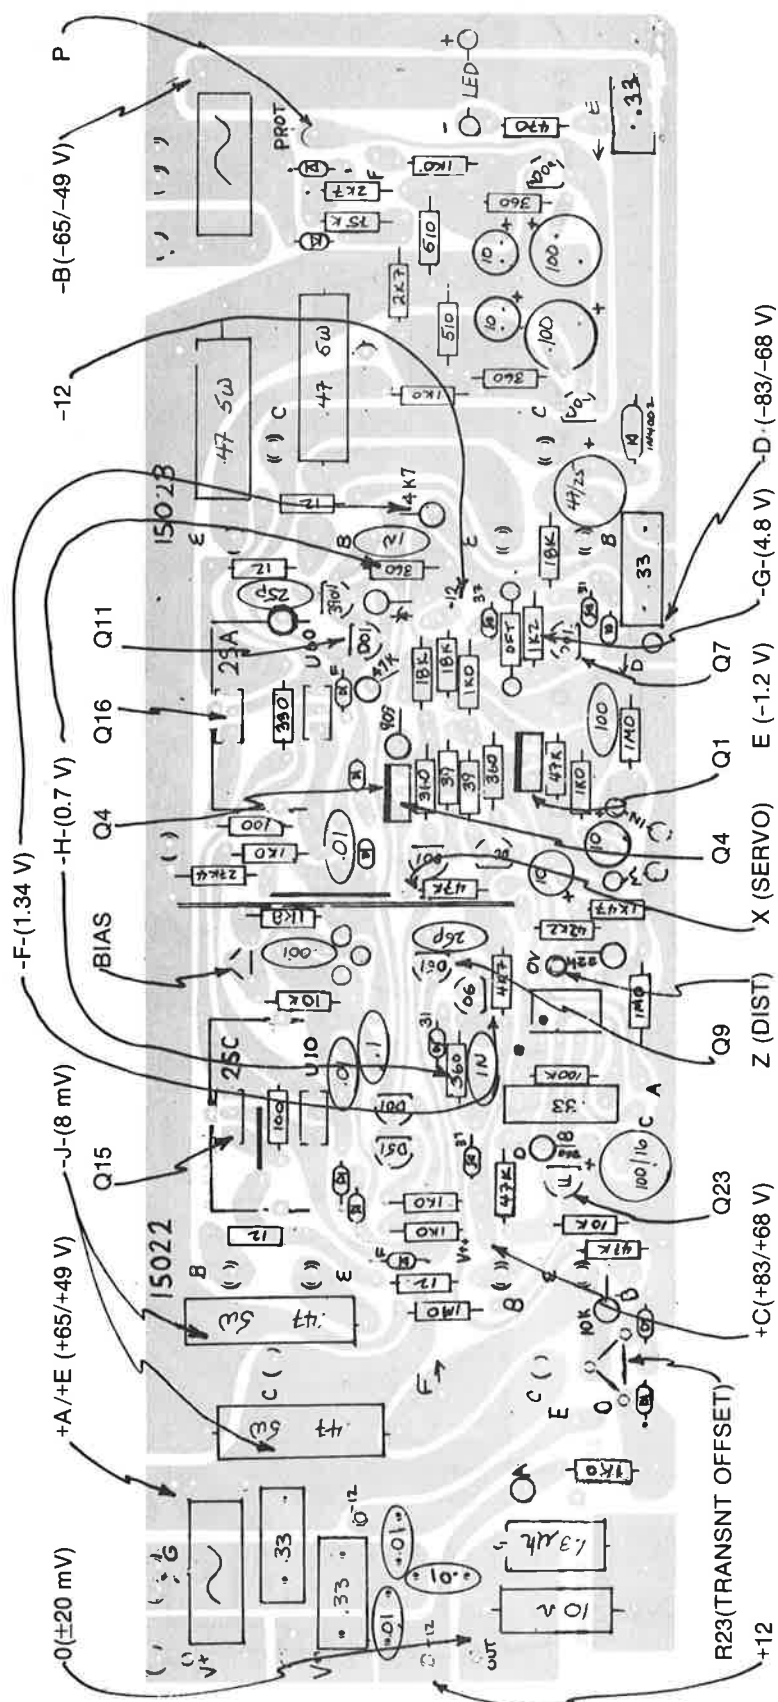

Fig. 9-1. Power Amp Circuit Board, Component Side, Rev 1-2 (Early Units Only).
7.4 Amplifier Section. In general, failure of a resistor or semiconductor will produce a dc offset, and identification of abnormal dc levels or currents is the most important troubleshooting procedure. The dc servo, IC1, should be disconnected at point X (Figs. 9-1 and 9-2) when you are checking dc levels.
- 10.3 Power and Relay.** Set the autotransformer to 0.0 Vac and turn it on. Apply a 2 kHz, 0.325 Vac signal to the input and bring up the autotransformer voltage slowly. The current will peak each time the voltage is advanced, settling to less than 300 mA. If it remains above this level, and the amplifier otherwise appears to be working normally, reduce the bias current by turning the bias trimmers (see Fig. 9-1 or Fig. 9-2) counter-clockwise. At some point between 30 and 60 Vac the signal should appear abruptly. By 70 Vac all signs of oscillation should be gone; by 90 Vac the relay should pull in.